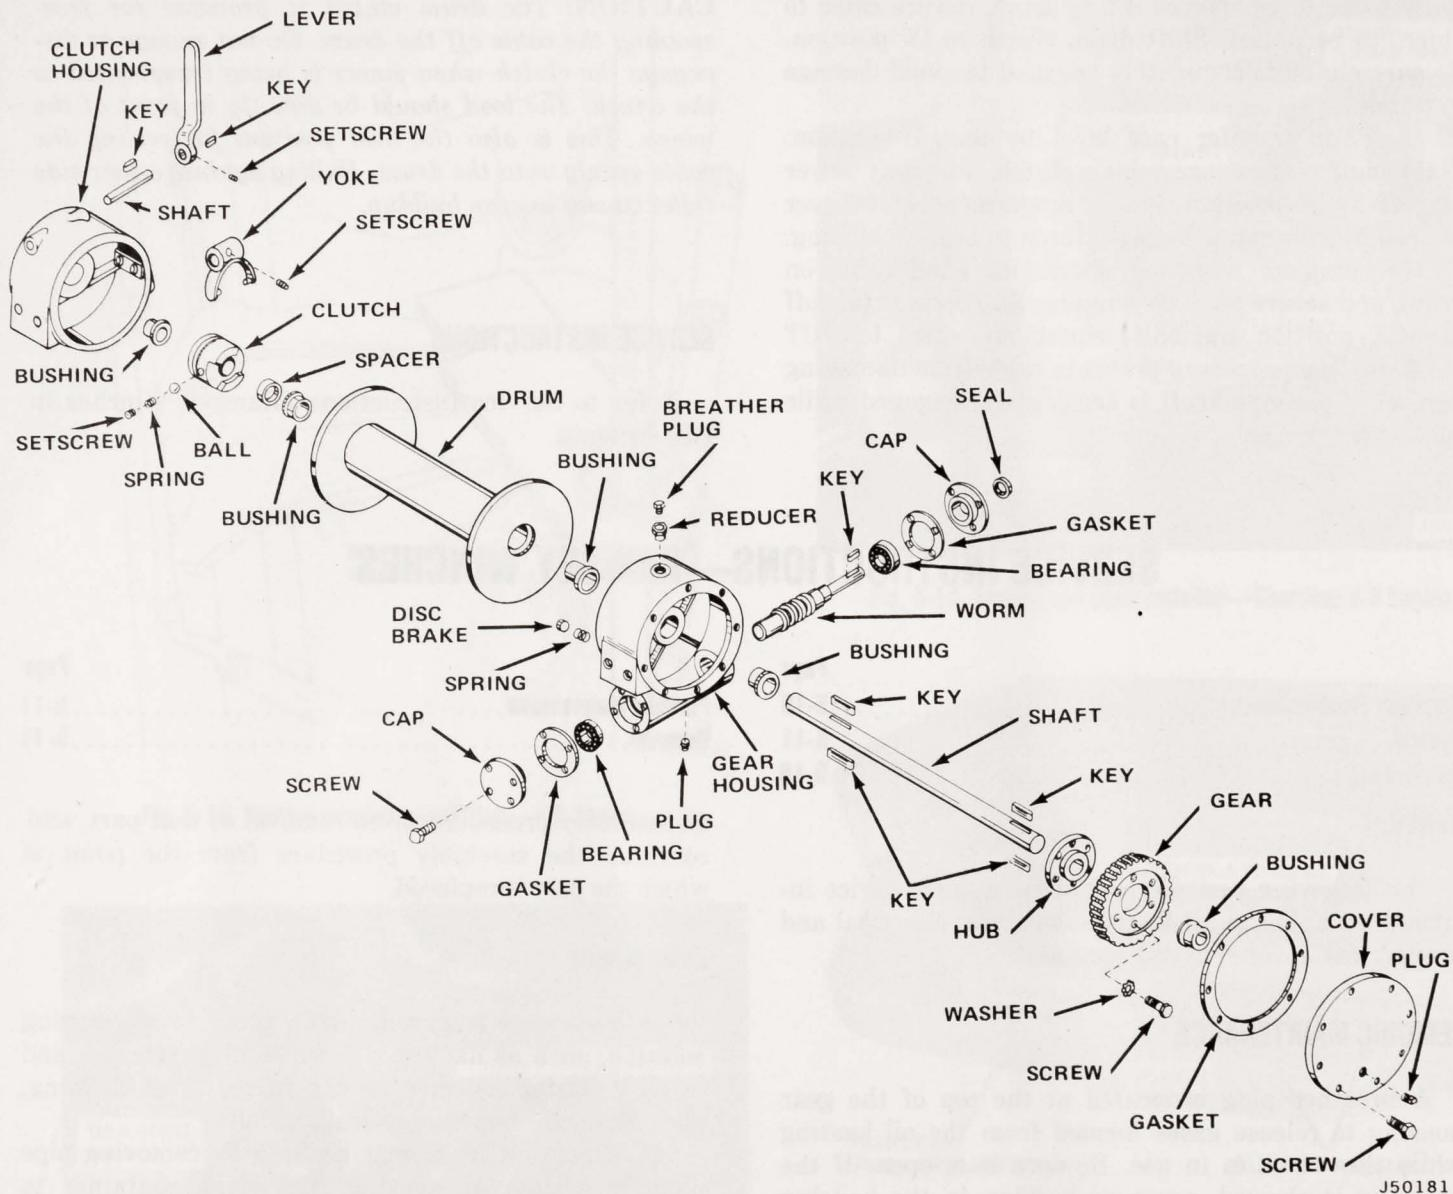

Fig. 5-17 Mechanical Winch—Exploded View
The following overhaul procedure provides detailed instructions for replacement of winch components (fig. 5-17 and 5-18). To replace any given part, follow the
- (39) Install clutch housing. Raise jaw clutch to top of keys (fig. 5-17).
- (40) Extend jaw clutch yoke as far forward as possible.
- (41) Tilt housing and engage yoke in jaw clutch, then lower housing and clutch in place (fig. 5-17).
- (42) Winch is now ready to install on vehicle.
- (43) Lubricate according to instructions in appropriate subsection.